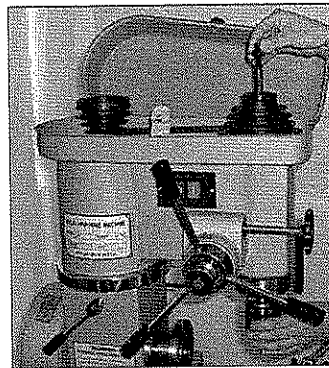

Fig. 20
- b). Then, put the taper shank on chuck into the taper hole of spindle as in Fig. 20.